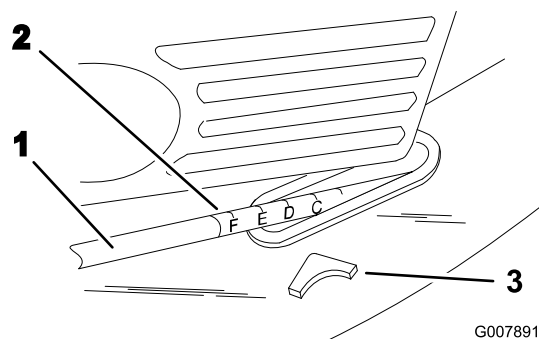

Figure 18
5. Lift up or press down on the handle, and use the pointer and the cutting height setting on the link rod to set the lawn mower to the desired cutting height (Figure 18).